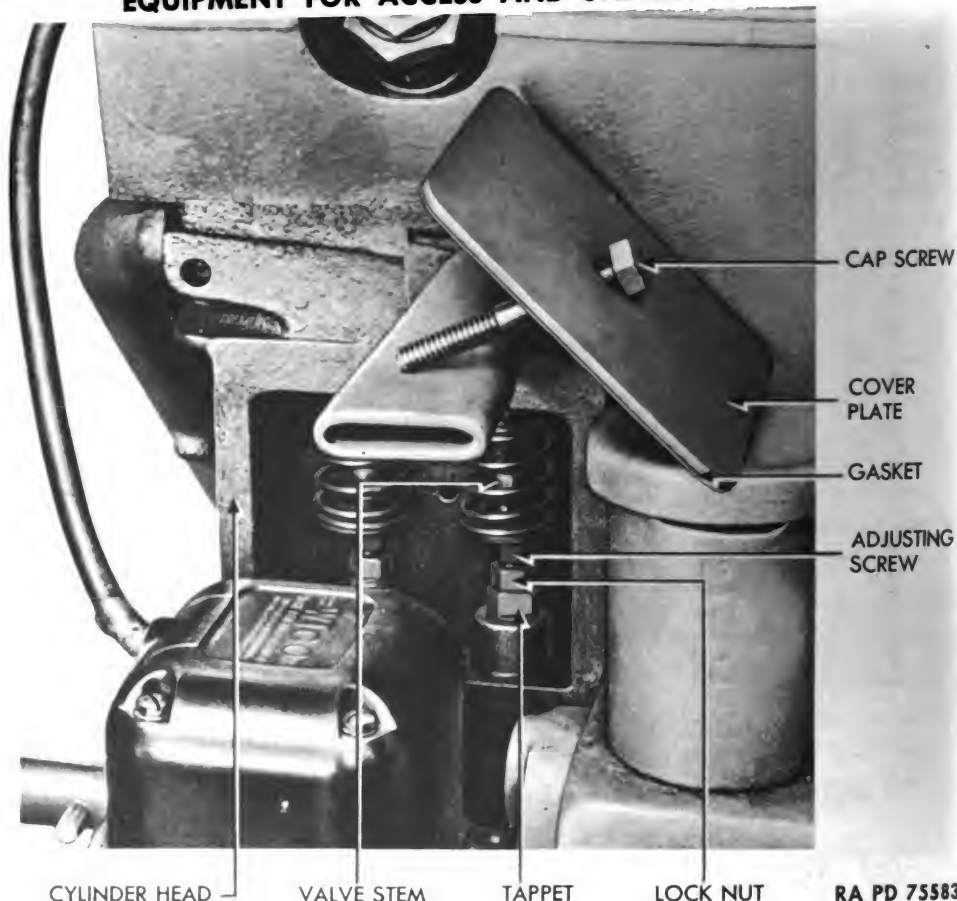

Figure 81 — Diaphragm Pump Engine Valve Tappet Adjustment Provisions
(2) ADJUSTMENT OF VALVE TAPPETS (fig. 81).